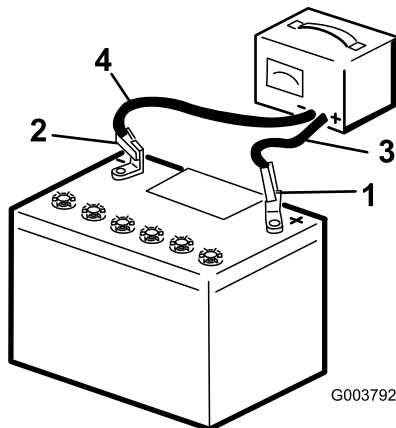

Figure 48
3. Connect the positive lead of the battery charger to the positive battery post (Figure 48).
4. Connect the negative lead of the battery charger to the negative-battery post (Figure 48).
6. When the battery is fully charged, unplug the charger from the electrical source, then disconnect the charger leads from the battery posts (Figure 48).